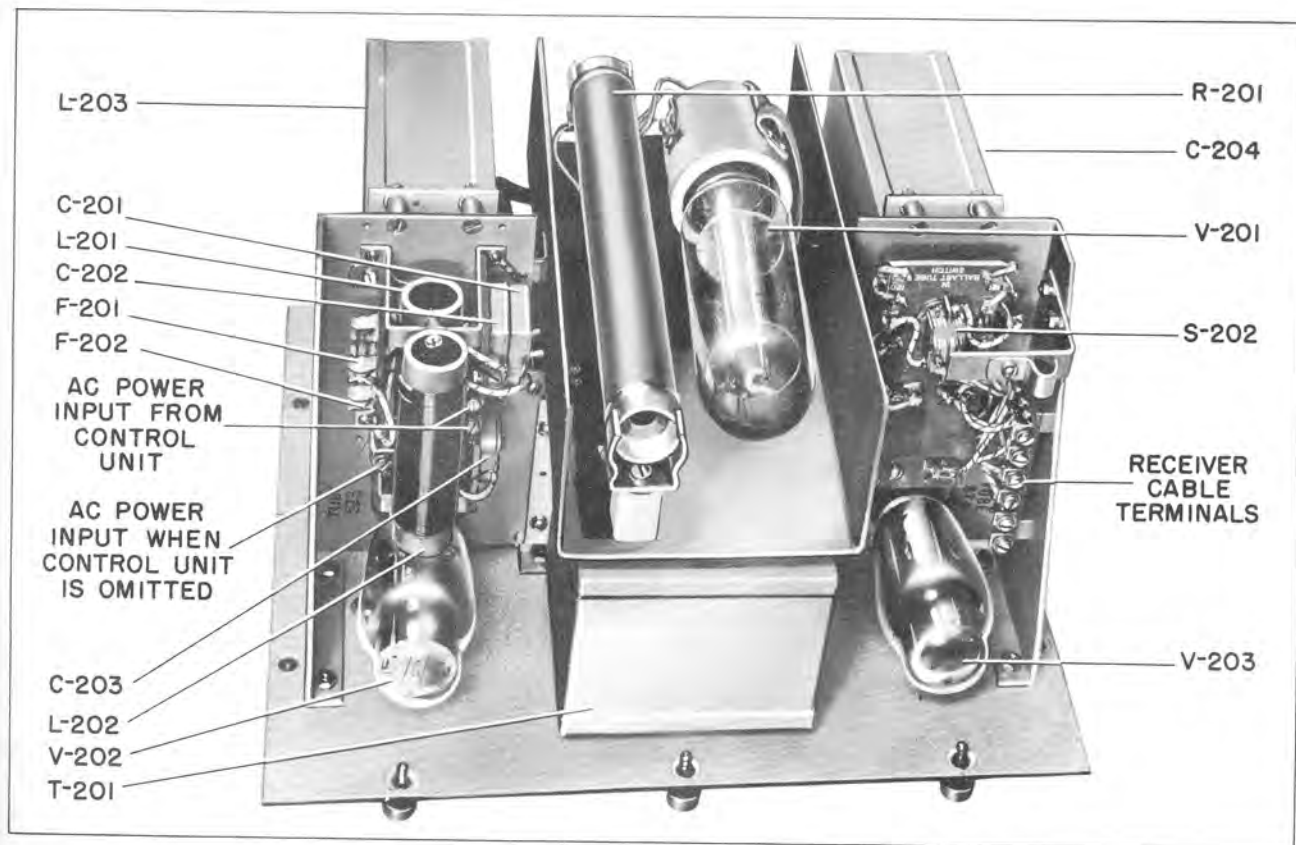

Figure 4—Power Unit CMX-20131-A (Top View of Chassis—Covers Removed)
- 9.5-7 Referring to Figure 16, it will be observed that four terminals are provided for connecting the 110-, 115-, or 120-volt, 60-cycle supply to the power unit. When this equipment is used with the control unit, the power connection from the control unit to the power unit is made to the two right-hand terminals. When no control unit is employed, the connection is made to the left-hand terminals. Connecting to the two right-hand terminals removes the power switch on the panel from the circuit. (See Figure 4.)